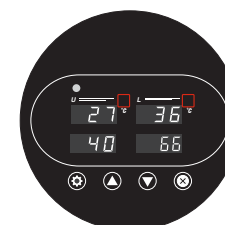

Fig. 11
1. Wait until the platens reach the desired temperature(s) and the heating icons are turned off (Fig. 11).
2. Place the prepared material in the center of the bottom platen ❹.
3. Push Down ❸ handle grip to lower the top platen ❷ and start pressing.